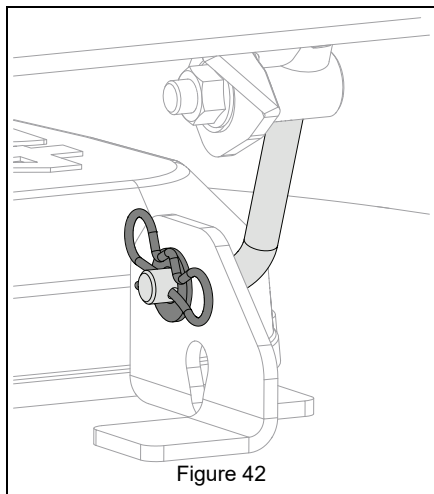

Figure 42
7. Remove bowtie pins and washers retaining deck-lift links to deck-lift brackets. See Figure 42.
2. Insert deck-lift links through deck-lift brackets and secure with original bowtie pins. See Figure 42.